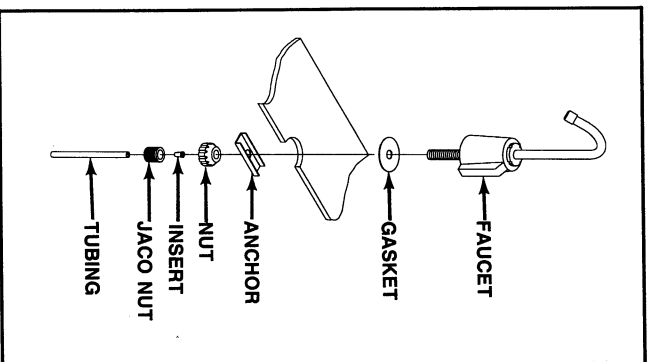

FIG. 4
3. Slide the nut over the tube (Fig. 4). Push the insert into the tube.